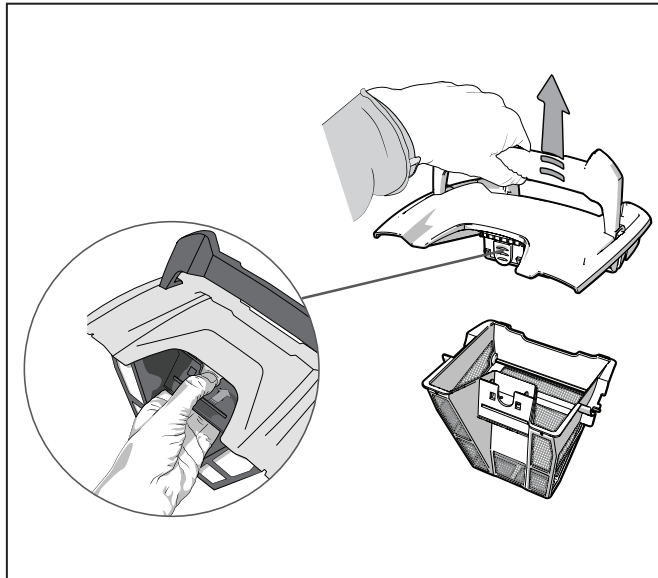

Figure 11. Remove Filter Canister Lid
4. Press the interior latch and remove the filter canister lid (Figure 11).